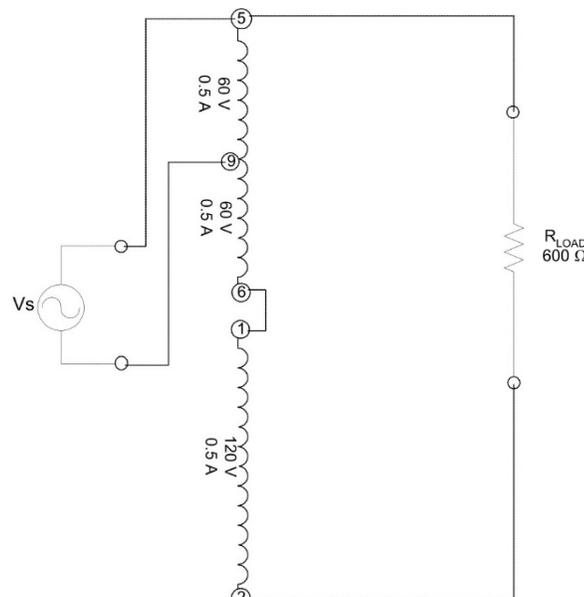
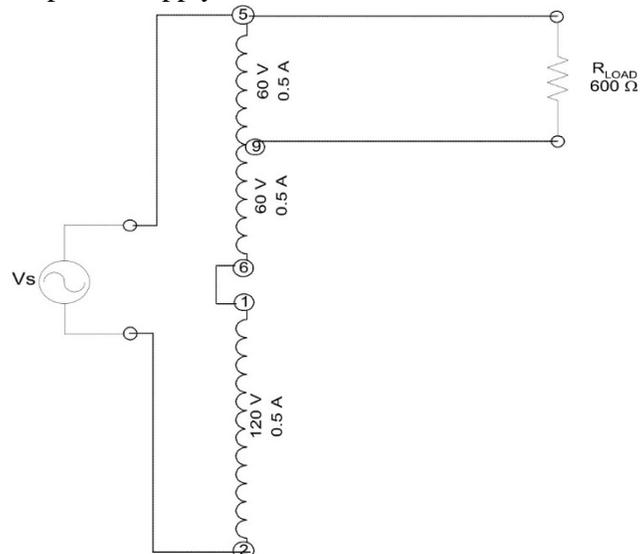

FIGURE 4.22
FIGURE 4.24
Step 1: Set up the autotransformer shown in Figure 4.22.
Step 1: Set up the autotransformer shown in Figure 4.24.
STEP-UP Figure 4.22	STEP-DOWN Figure 4.24